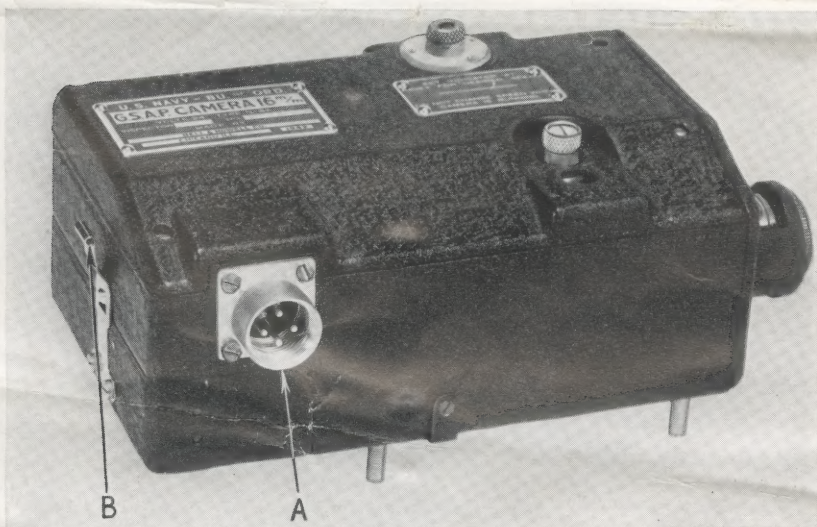
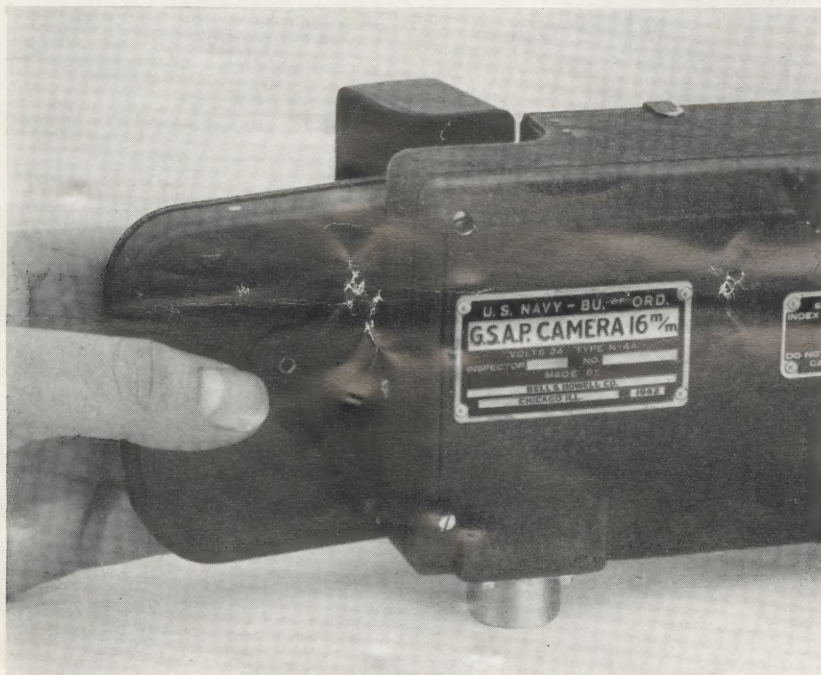

Figure 1
Figure 2
The Bell & Howell GSAP Camera is driven by an electric motor. A thermostat automatically cuts out the motor if improper threading of the film magazine, or any other factor, should cause the film to jam, thus eliminating fire hazard, burnt-out motor, etc. To connect the camera for operation, insert the line-cable plug into the 4-pin male receptacle A, Figure 1.
The GSAP Camera uses film which is pre-threaded in metal magazines. To load the camera, lift the spring latch B, Figure 1. Insert the film magazine as shown in Figure 2, making certain that (1) the opening in the film magazine goes in first; (2) the pin on the edge of the magazine faces away from the line-cable receptacle; and, (3) the footage dial on the magazine (which is not used in this camera) is toward the outer face of the camera and not toward the interior. Push the magazine forward until there is an audible click; then close the door.